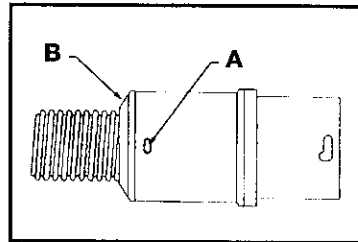

Fig. 4A
- A. Depress locking tab (A) Fig. 4A and pull collar (B) out of the bayonet connector slightly.